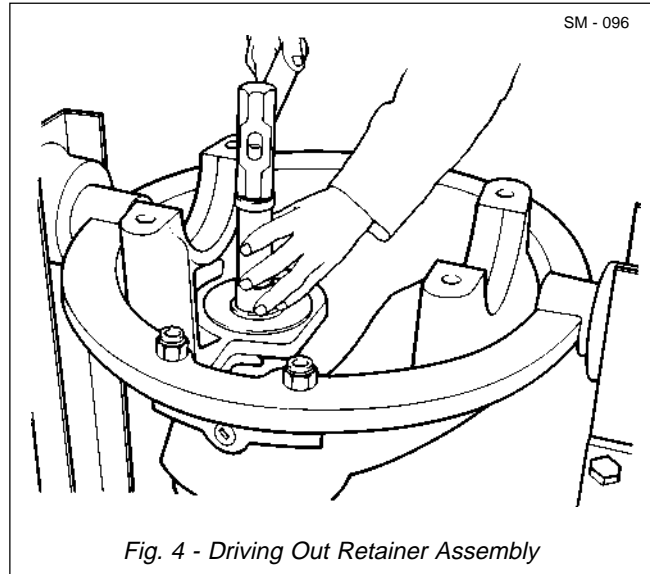
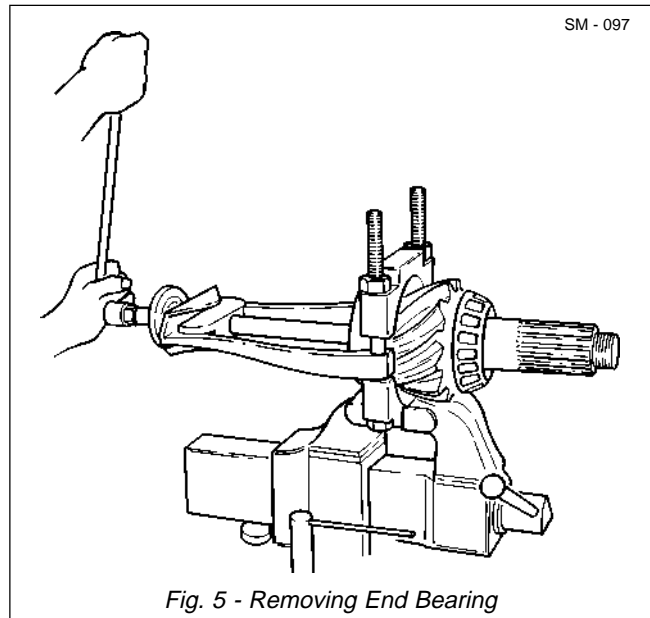

Fig. 4 - Driving Out Retainer Assembly
Fig. 5 - Removing End Bearing
**Note:** Before disassembling, punch identifying marks on retainer (9) and carrier housing (19) for assembly purposes.
1. Remove bolts (2) and plate (3). Pull yoke (5) assembly from pinion gear (15) shaft with care so as not to damage or distort the yoke flange.
2. Unscrew bolts (10) attaching retainer (9) and shims (11) to carrier housing (19).
3. Remove and discard 'O' ring (7) from groove in yoke (5).
4. Remove set screws (8) and screw in two 1/2"-13 UNC bolts in the tapped holes of retainer (9) flange, using these bolts as pullers to remove retainer (9) assembly.
**Note:** If the above retainer assembly removal procedure is not feasible, the following method may be used: Invert carrier housing (19), as shown in Fig. 4, then drive retainer (9) out of the housing. During this operation, be careful not to obliterate the etched dimension on the bottom of pinion gear (15) shaft.
5. Separate retainer (9), cup (13) and oil seal (12) from carrier housing (19), then remove shims (11). Wire shims (11) together to aid in assembly.
6. Using a soft-jawed vice with the jaws opened slightly wider than retainer (9) bore, place retainer (9) on top of the bars, with the flange facing downward. Tap out cup (13) and oil seal (12) with a soft-faced hammer. Be careful not to damage the inside machined surface of retainer (9) when removing cup (13).
7. Remove pinion assembly (14, 15 & 16) from carrier housing (19).
8. Using a bearing puller similar to that shown in Fig. 5, remove cone (16) from pinion gear (15) shaft.